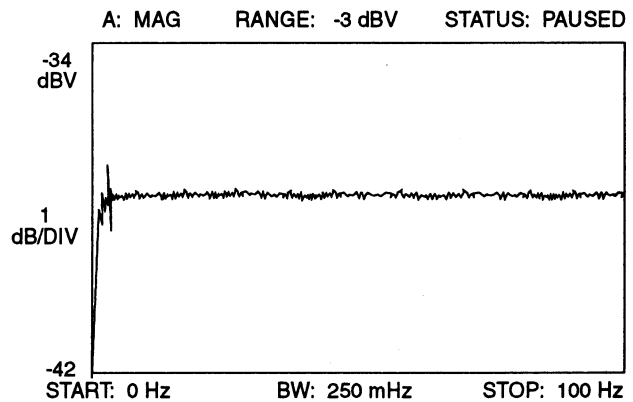

Figure 12. Mod Comp Flat Frequency Response Waveform
- Step 15. Compare your trace on the DSA with Figure 12. The frequency response may not be the same, but the entire response curve should be displayed on the screen with less than .5 dB of noise.
- If your trace looks like Figure 12, continue with step 17.